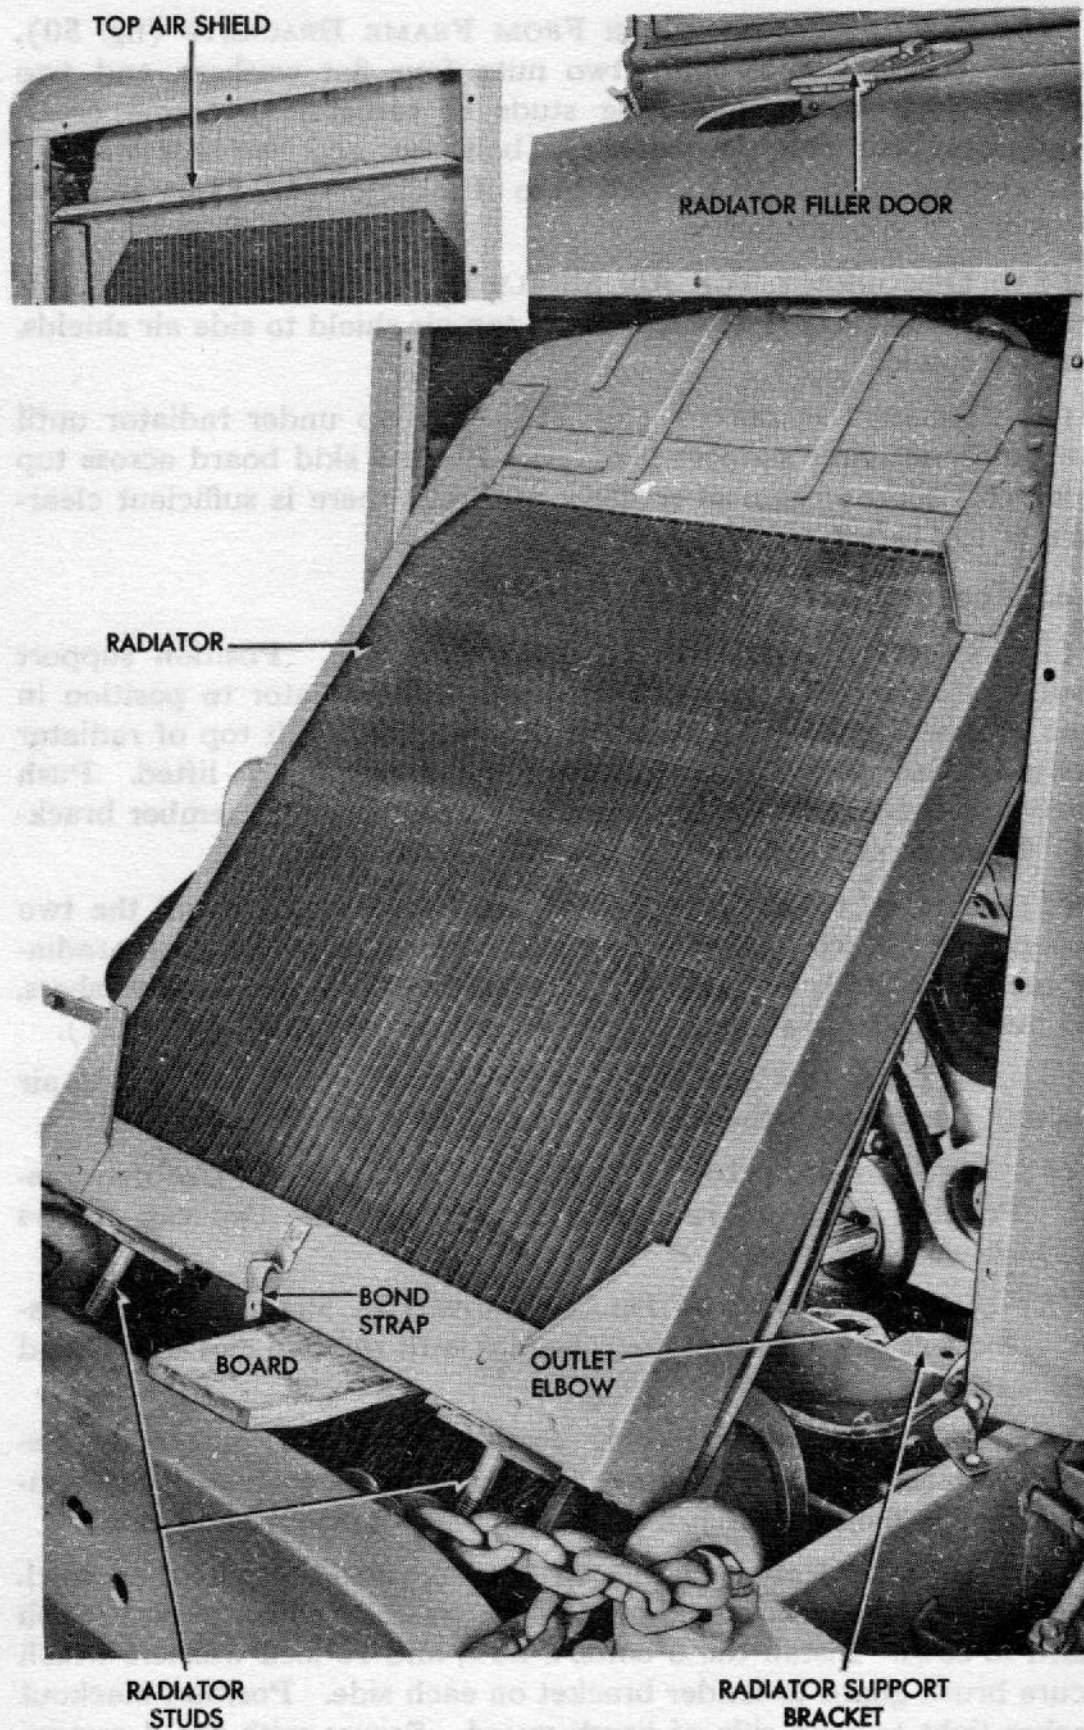

Figure 51 — Removing Radiator
(7) **DISCONNECT RADIATOR FROM FRAME BRACKETS** (fig. 50). Remove the two cotter pins, two nuts, four flat washers, and two springs which secure mounting studs of radiator to frame cross-member on each side. Remove the bolt, nut, and two lock washers which secure bond strap to front base of radiator (fig. 51). Remove radiator support insulators.
(8) **DISCONNECT TOP AIR SHIELD** (fig. 51). Remove the four screws and lock washers which secure top air shield to side air shields. Remove shield.
(9) **REMOVE RADIATOR** (fig. 51). Pry up under radiator until studs clear radiator support brackets. Place a skid board across top of winch. Skid bottom of radiator out until there is sufficient clearance at top to lift radiator out.
(1) **POSITION RADIATOR IN COWL** (fig. 51). Position support insulators on radiator support brackets. Lift radiator to position in front of cowl. Place skid board under radiator. Tilt top of radiator forward. Guide neck through filler neck as radiator is lifted. Push bottom of radiator to position on frame front support member brackets. Remove skid board.
(2) **CONNECT RADIATOR TO FRAME BRACKETS**. Install the two springs, four flat washers, two nuts, and cotter pins which secure radiator mounting studs to brackets. Install the bolt, two lock washers, and nut which secure bond strap to front base of radiator (fig. 51).